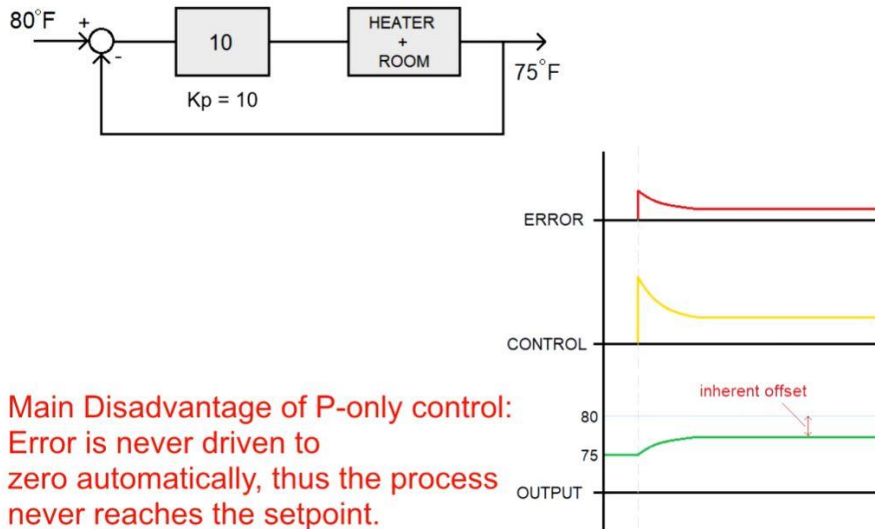

Fig 2 P-controller explaining the steady state error
- Term **P** is proportional to the current value of the SP – PV error $e(t)$. For example, if the error is large and positive, the control output will be proportionately large and positive, considering the gain factor "K". Using proportional control alone in a process with compensation such as temperature control, will result in an error between the setpoint and the actual process value as shown in figure 2, because it requires an error to generate the proportional response. If there is no error, there is no corrective response.